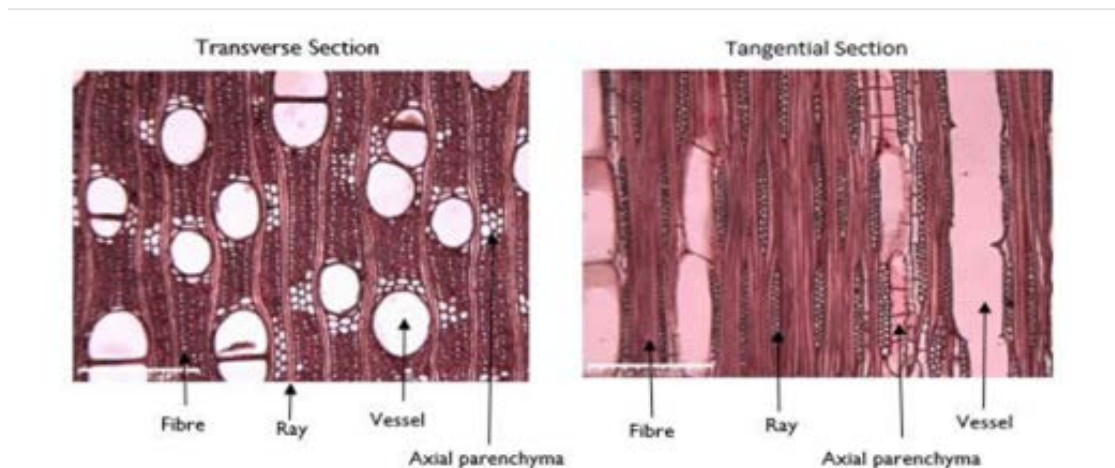

Fig. 2.1.3: Structure of ring-porous or diffuse-porous hardwood [Sourced from teacher's manual]
1. **Pored Wood:** Commonly referred to as hardwood, pored wood is characterised by visible pores or vessels, fibres, parenchyma (soft tissue), and rays, as illustrated in Fig. 2.1.3. These elements give living trees their unique appearance and function by releasing sap. Long cells, known as fibres, run vertically through the tree, providing strength and structural support. Parenchyma, a soft layer, stores nutrients, while rays, which are microscopic tubes, carry sap and water laterally, maintaining the tree's health.